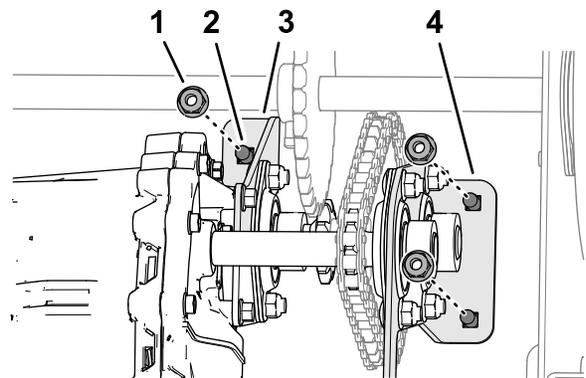

Figure 63
5. Loosely assemble the transaxle support bracket and the bearing bracket to the machine (Figure 63) with the 3 carriage bolts (5/16 x 3/4 inch) and the 3 flange locknuts (5/16 inch).